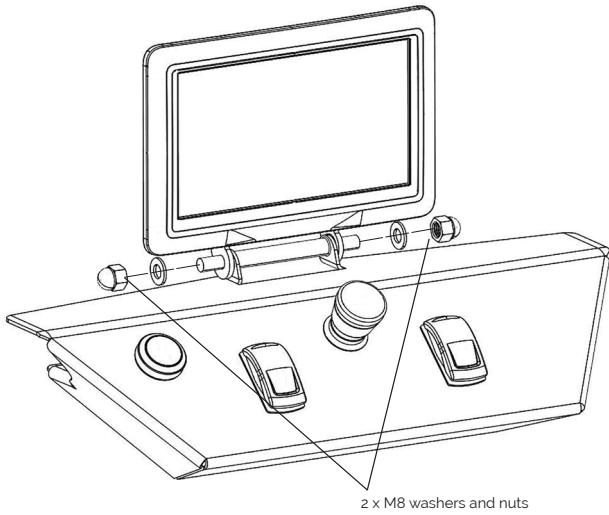

FIGURE 5
1. Remove two M8 nuts and washers, see fig: 5